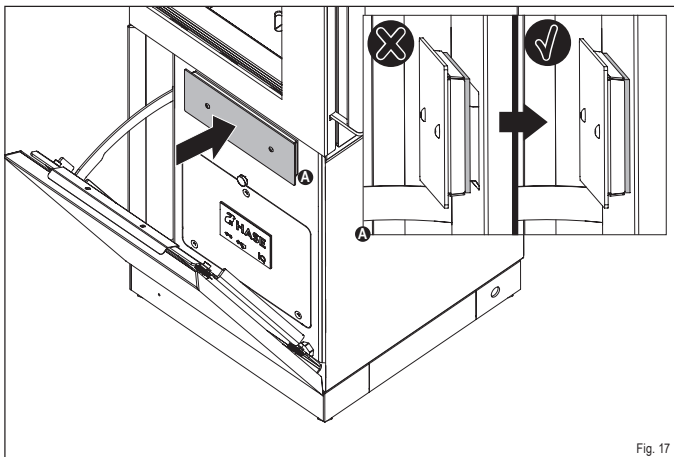

Fig. 17
When sliding in the ash pan, ensure it is flush with the seal (Fig. 17). This ensures the burning process is not disturbed by false air.
- ✓ **Slide the ash drawer back into the opening so it is flush with the seal (Figure 17).**
- ▶ **Slide the ash drawer back into the opening (Fig. 17).**